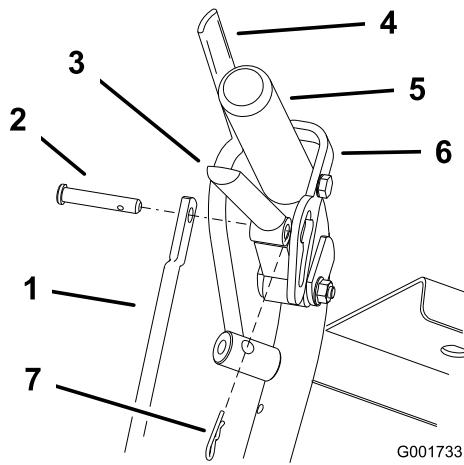

Figure 40
1. Adjust the rod length by releasing the drive lever and removing the hairpin cotter pin and clevis pin. Rotate the rod in the rod fitting (Figure 40).
4. Place the clevis pin into the drive lever (Figure 40).
6. Install the hairpin cotter pin between the drive levers and the neutral locks and into the clevis pins (Figure 40).